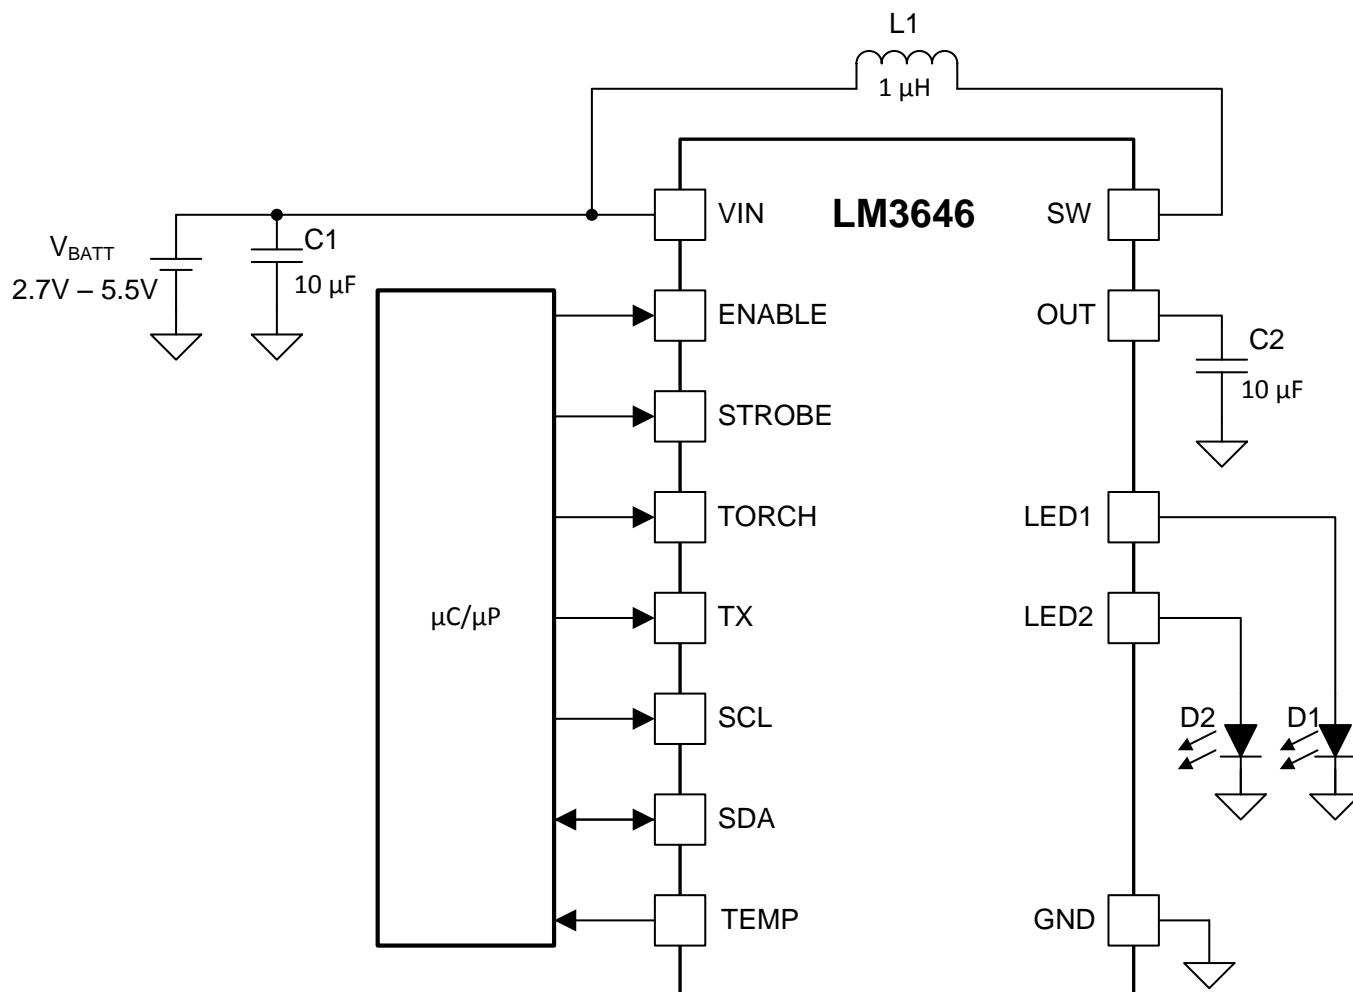

Figure 36. Typical Application Circuit
Choosing the correct size and type of input capacitor helps minimize the voltage ripple caused by the switching of the LM3646 device's boost converter, and reduces noise on the boost converter's input pin that can feed through and disrupt internal analog signals. In the Figure 36 a 10-μF ceramic input capacitor works well. It is important to place the input capacitor as close as possible to the LM3646's input (IN) pin. This reduces the series resistance and inductance that can inject noise into the device due to the input switching currents. Table 3 lists various input capacitors that are recommended for use with the LM3646.